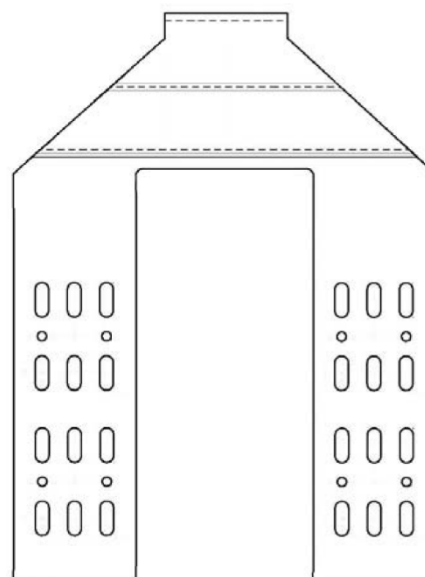

Figure 3: Door Interface Bracket for S/S and 2/S with Vane Interference
NOTE 2: When installing a Glide A door operator on a side-slide entrance (single-speed or two-speed) where 6940 interlocks are used and two-piece hangers are present, order (1) bracket AAA392EW1 (Figure 3) per operator. This bracket is 24.4 in. long and can be used to link the operator belt hitch to the door face and **provide clearance around the door vane.** Do not mount the gate switch roller bracket to the door hitch bracket. Bracket sold separately.